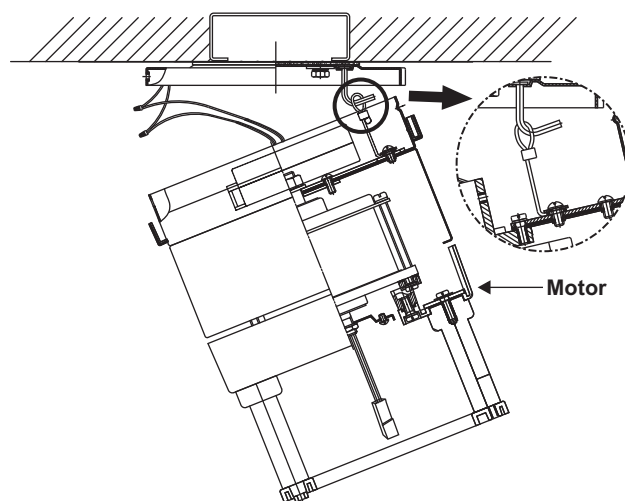

Figure 6
3. Lift fan into position by hanging the motor assembly onto the hook from the mounting bracket allowing it to hang freely (Fig. 6).